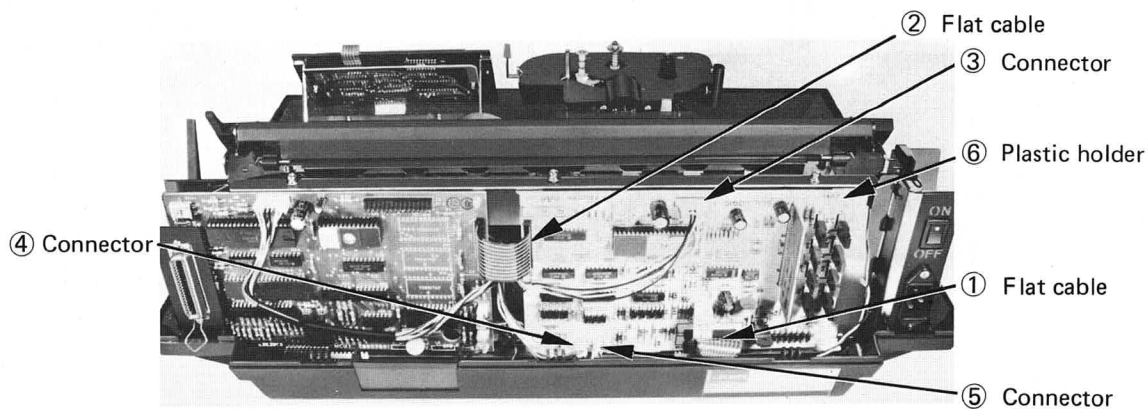

Fig. 5.29
- Step 2. Disconnect flat cables ① and ②. (Fig. 5.29)
- Step 3. Remove connectors ③ and ④. If the printer has the paper end switch, also disconnect connector ⑤. (Fig. 5.29)
- Step 4. Release the circuit board from the hooks of plastic holder ⑥. (Fig. 5.29)